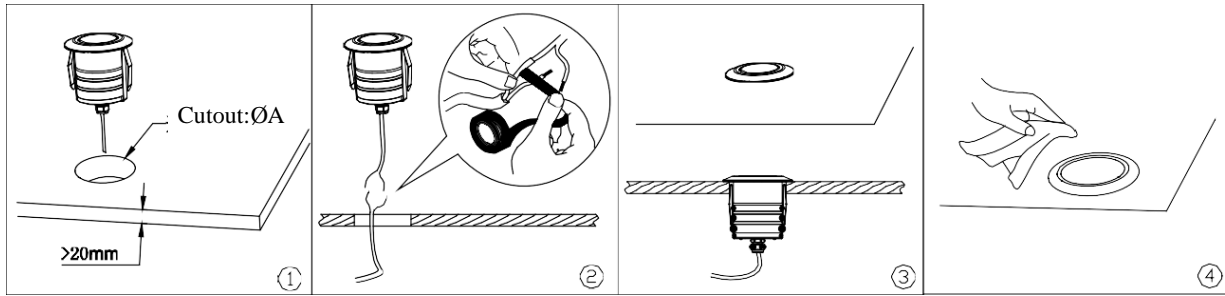

Figure 2
1. First, open holes according to the corresponding model of the lamp at the location where the lamp is ready to be installed, as shown in Figure 2-①. The diameter size of the holes is shown in Table 1;
2. As shown in Figure 2-②, connect the lamp lead to the 12VDC power supply line;
3. Push the lamp into the hole as shown in Figure 2-③, so that the flipped edge of the lamp is flush with the installation surface;
4. Clean the surface of the light outlet of the lamp according to Figure 2-④